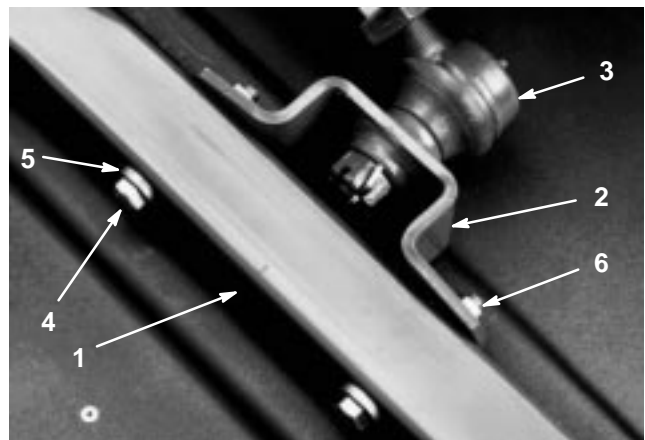

Figure 5
4. Secure the ball joint mounts to each castor arm with 2 capscrews (7/16 x 3 in.), flat washers (7/16 in.), and flange nuts (7/16 in.). Position the flat washers to the outside of the castor arm (Fig. 5).
5. Tighten the large jam nut securing the ball joint to the lift arm (Fig. 5). When tightening the jam nut, hold the ball joint straight to permit proper oscillation during raising and lowering of the cutting unit.